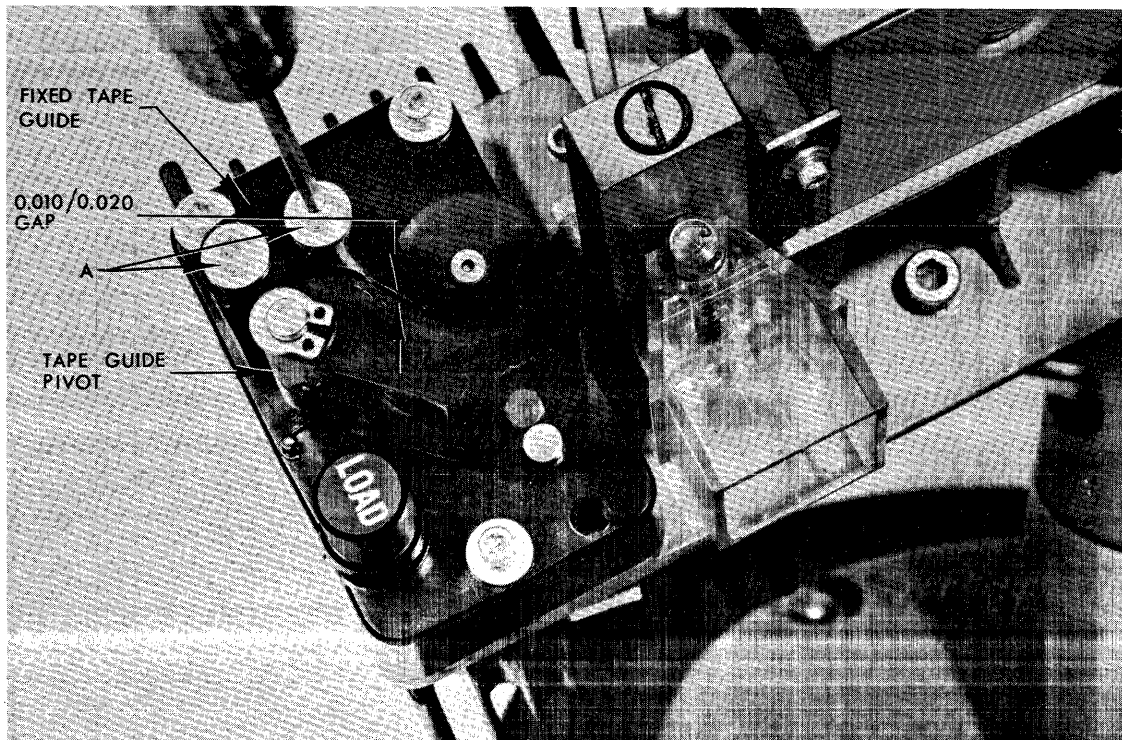

Figure 5-5. Fixed Tape Guide Alignment.
- q. Replace the fixed tape guide and adjust the fixed tape guide so that the gap between the fixed tape guide and the tape guide pivot is between .010 and .020 inch. Refer to Figure 5-5. Tighten the two screws (A). The screws marked (A) in Figure 5-5 are the same two screws marked (A) in Figure 7-1.